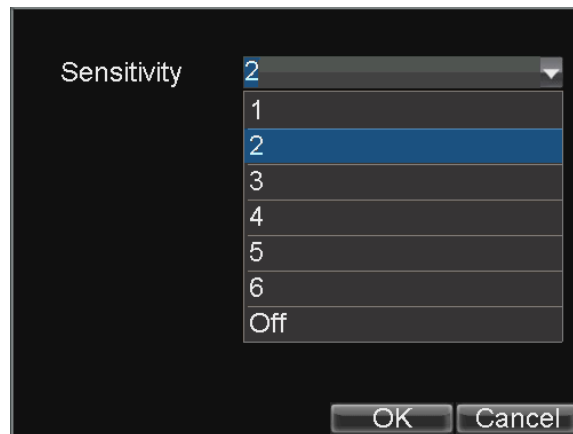

Figure4. Motion Sensitivity Setting
5. Right click mouse or press the *MENU* button on the front panel to set the Motion Detection Sensitivity, shown in Figure 4. Higher sensitivity value corresponds to higher sensitivity level.